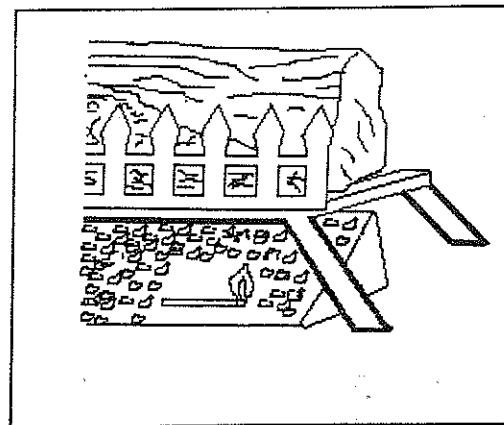

Figure 6
- C. Lay match on top of embers and granules near gas burner input. **Do not hold match in hand.** (See Figure 6.)